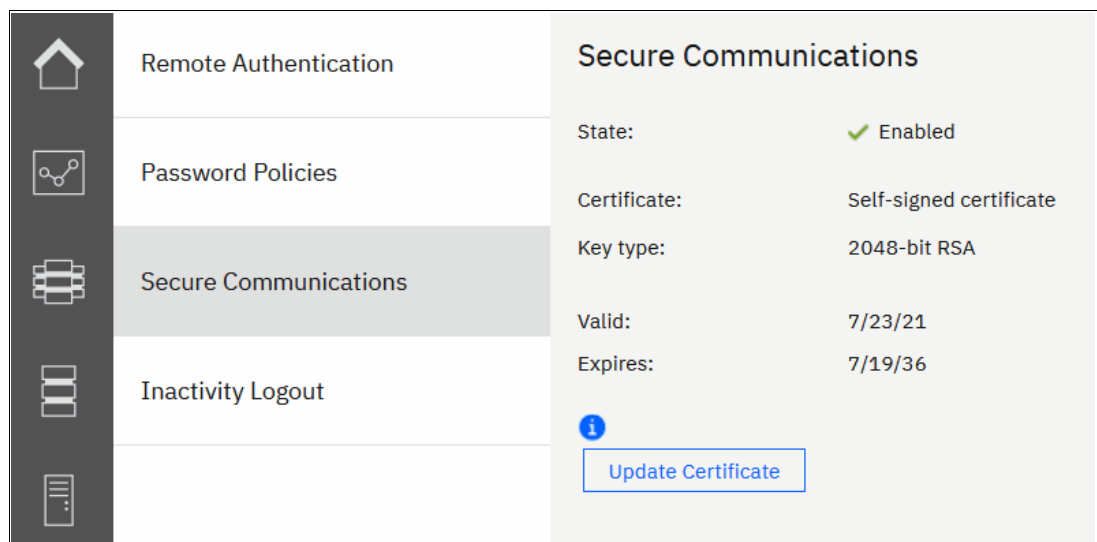

Figure 3-59 Accessing the Secure Communications window
To see the details of your system certificate, select **Settings** → **Security** and click **Secure Communications**, as shown in Figure 3-59, or run the `lsystemcert` command.
1. Select **Update Certificate** on the Secure Communications window, as shown in Figure 3-59.